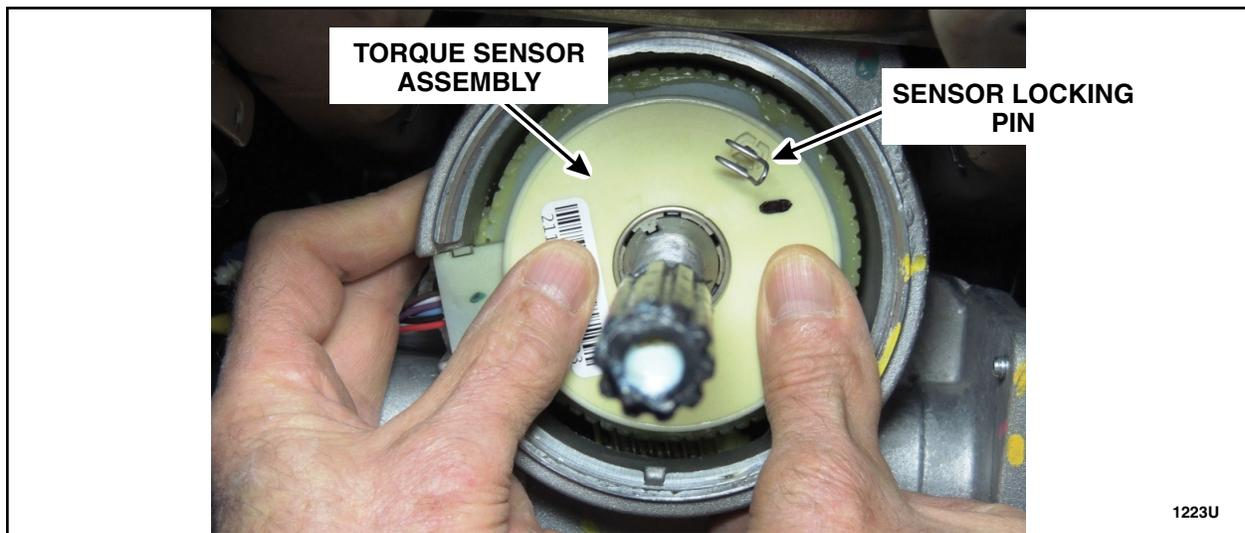

FIGURE 18
24. After the steering shaft is **perfectly** aligned with the spline on the alignment tool, remove the alignment tool and carefully install the torque sensor assembly with the locking pin still in place. When seating the torque sensor assembly, apply gentle but even force on both sides of the sensor (DO NOT REMOVE THE LOCKING PIN YET). See Figure 18.